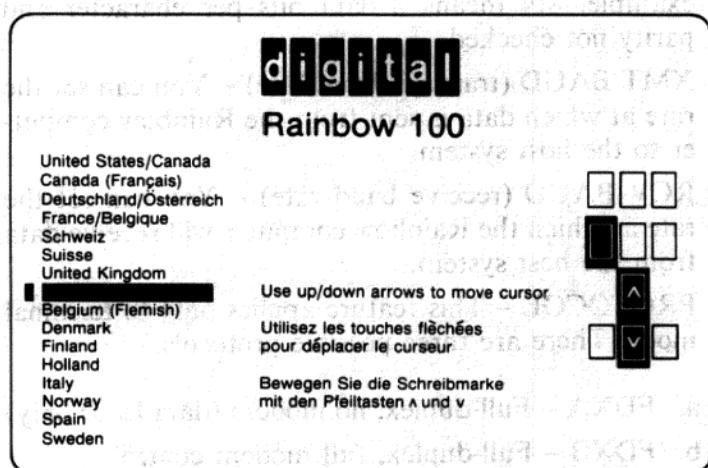

Figure 2-4 Language Selection Menu
26. **KEYBOARD (PC100B only)** - You can choose another keyboard language with this setting. Change the setting to 0, press <Shift/S> to save the setting, and reset the computer by pressing <Ctrl/Set-Up>. The computer will display the language selection menu (Figure 2-4). Follow instructions on the screen to select a new language.